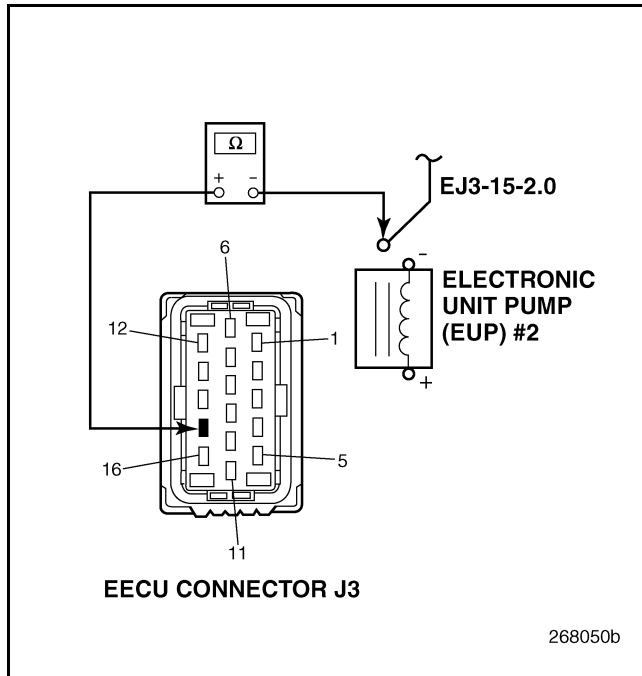

Figure 758
4. Check for continuity between circuit EJ3-15-2.0 at the EUP Solenoid 2 and EECU harness connector J3 pin 15 (see Figure 758).